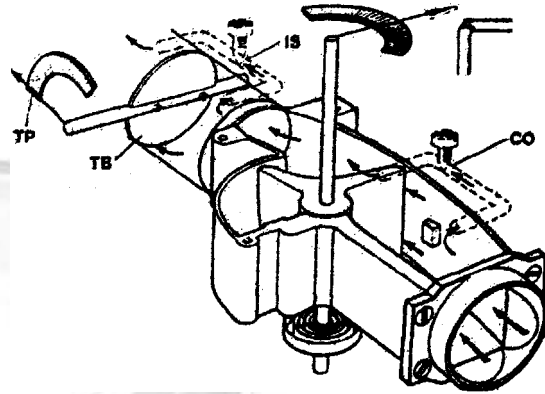

Fig.2.6
During cranking and when the engine is idling sufficient air is drawn into the engine to open the flap unit approximately 5° as seen in fig.2.6. This movement allows the contacts (FPC) to close and switch the fuel pump into operation.
It can also be seen in fig.2.6 that whilst the bulk of air enters the engine via the measuring flap, a by-pass port and adjustment screw (CO) is also provided. This adjustment screw enables fine adjustment of the actual airflow and thereby controls the mixture strength (CO) at idle speeds.